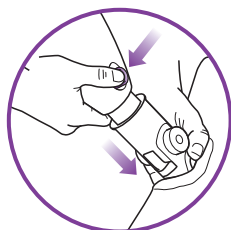

fig. 4
**4** Snap the mop head into the mop body by lining up the groove on the back of the mop body with the groove on the back of the mop head. Push until you hear it latch into place. **(fig. 4)**